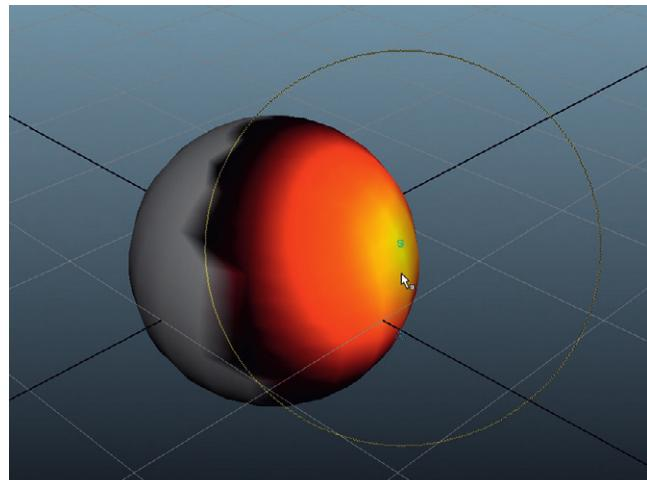

FIG. 2.20 Adjusting the falloff of the Soft Modification Tool.
Step 28: Adjust the area of influence by holding the B key down and click-dragging to the left to make it smaller (Fig. 2.20).